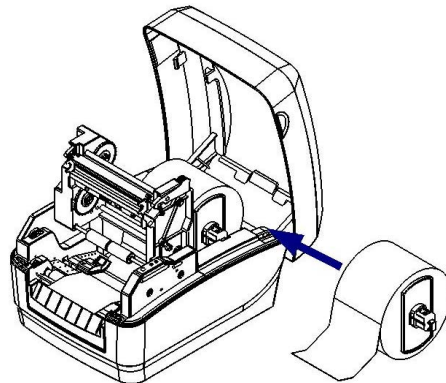

Figure 2.4.5
- 4) Drop paper roll on the paper holder to the paper room, then pull out the front end of the paper and put it in the print path flatly, and also release the paper guide to hold it. (See figure 2.4.5)